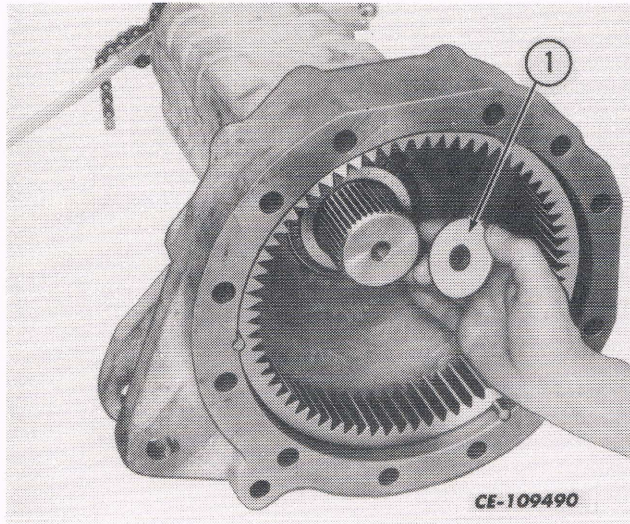

Fig. 16
18. Coat the shim pack obtained in step 16 with petroleum jelly. Position the shim pack on the end of the axle. Refer to Fig. 16.